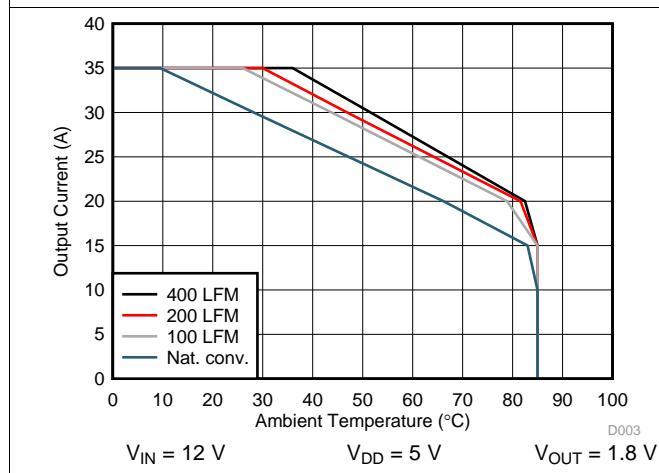

Figure 6. Safe Operating Area – PCB Horizontal Mount ⁽¹⁾
The SOA curves in the CSD95377Q4M data sheet give engineers guidance on the temperature boundaries within an operating system by incorporating the thermal resistance and system power loss. Figure 6 and Figure 7 outline the temperature and airflow conditions required for a given load current. The area under the curve dictates the safe operating area. All the curves are based on measurements made on a PCB design with dimensions of 4 in (W) \times 3.5 in (L) \times 0.062 in (T) and 6 copper layers of 1-oz copper thickness.